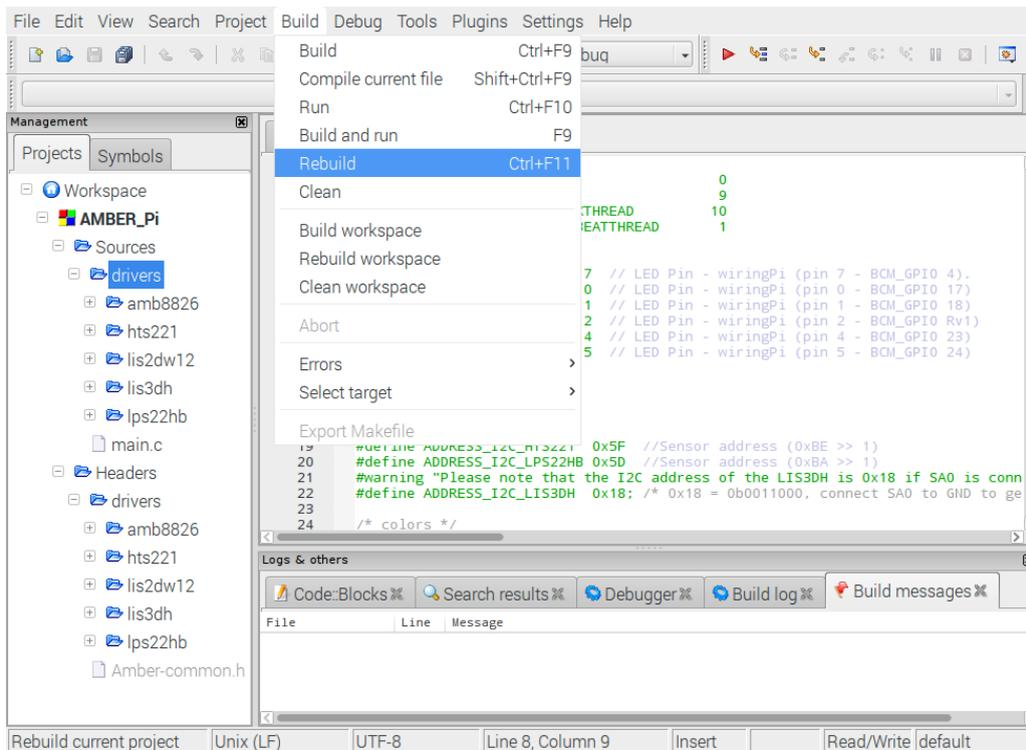

Figure 7: Rebuild the application
8. Then press **Build** → **Rebuild** to build the project (see figure 7).